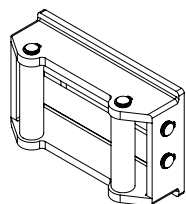

Figure 16
6. **EQUIPPING THE WINCH WITH A ROLLER FAIRLEAD** will substantially reduce wear on the wire rope during angle pulls (Figure 16). The rollers eliminate heavy rub-bing and abrasion to the wire rope.